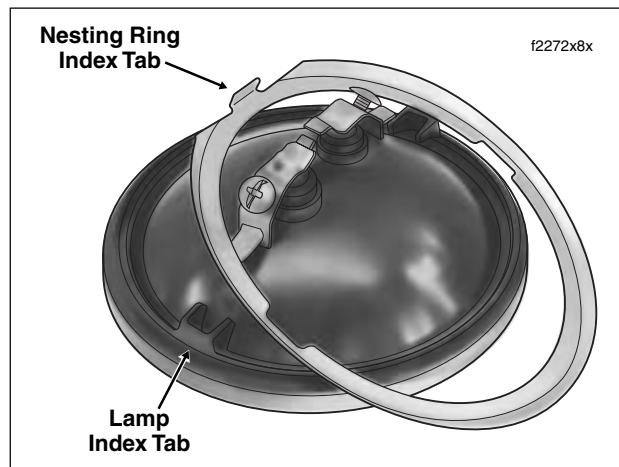

Figure 8-34. Install Nesting Ring at Back of Passing Lamp Bulb
1. Place nesting ring at back of **new** lamp with the concave side up. See Figure 8-34.